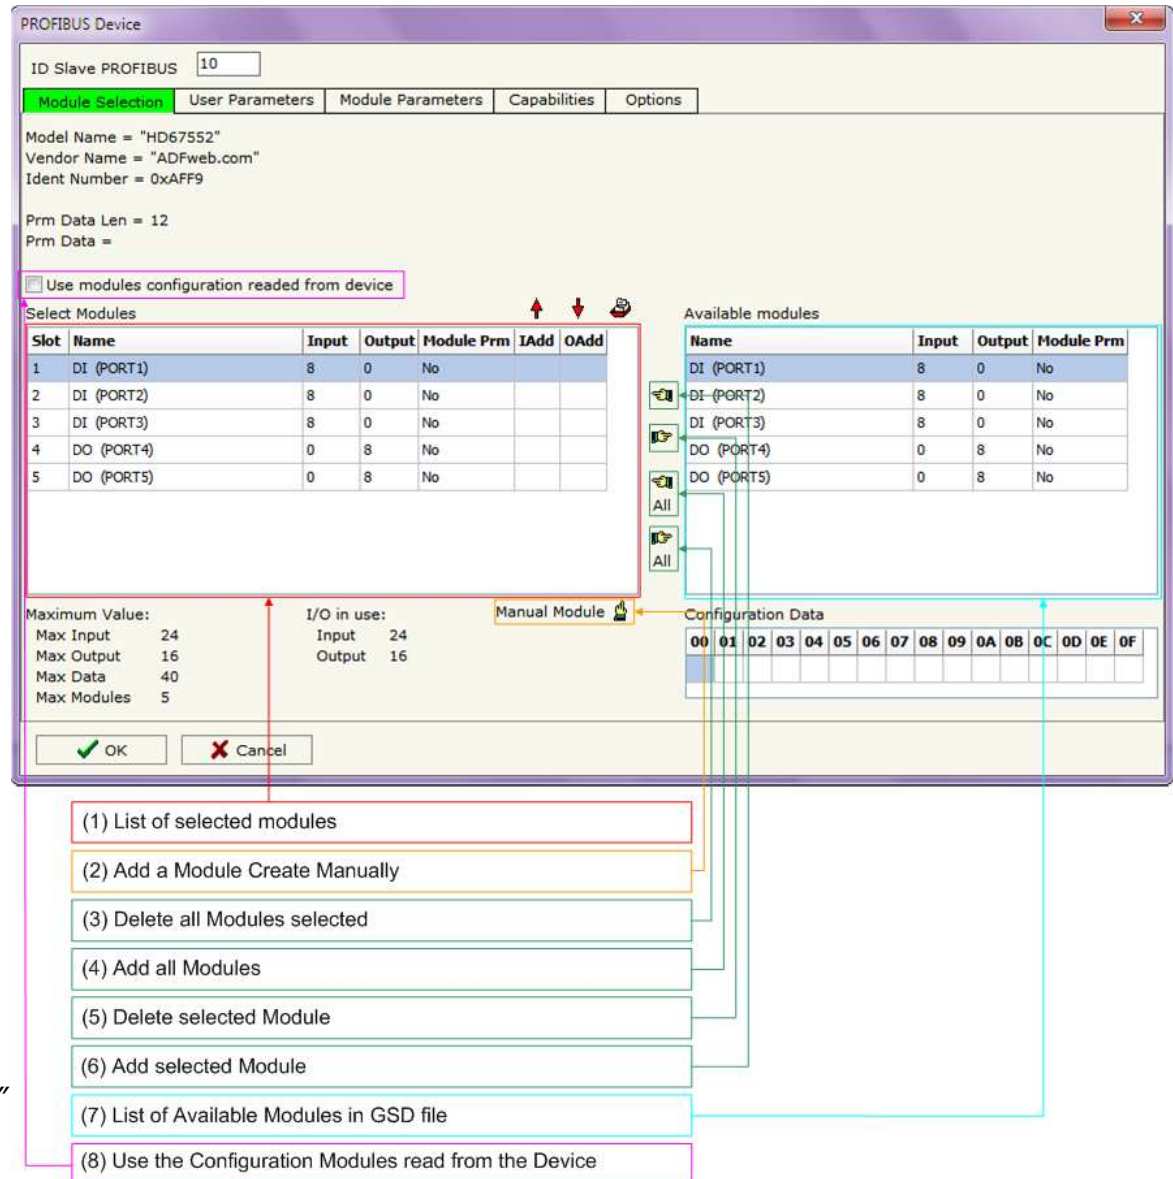

Figure 7: "PROFIBUS Device – Module Selection" window
The section "Module Selection" is used to select which Modules are present in the Slave (Fig. 7).
- Check the list of the Modules selected ("Select Modules") (Fig. 7, point (1)) and the list of Modules Available in GSD file ("Available Modules") (Fig. 7, point (7));
- Add a Module from the list of GSD file (Fig. 7, point (6));
- Remove a Module from selected list (Fig. 7, point (5));
- Add all Modules present in the GSD file (Fig. 7, point (4));
- Remove all Modules from selected list (Fig. 7, point (3));
- Insert a Module not present in the GSD file ("**Manual Module**") (Fig. 7 point (2)). For more info see the section "Manual Module" below;
- Enable the read of configuration directly from the PROFIBUS Slave ("**Use module configuration readed from device**") (Fig 7, point (8)). If this option is enable the configuration of the modules is discorced and the device read the correct configuration directly to the PROFIBUS slave.
To modify a Module inserted manually, is necessary to do a double click on the module to change in the "Select Module" list (Fig. 7, point (1)). It is possible to change only the module inserted manually.